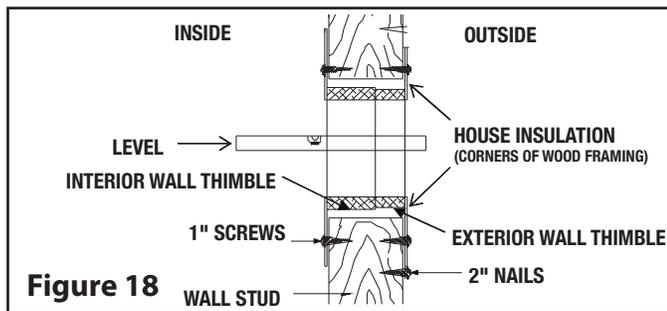

Figure 18
Using a level make sure that the hole for the chimney to pass through is horizontal. Screw the inner thimble in place with the provided screws. (see Figure 18).
**NOTE:** The cavity surrounding the radiation shield must be filled with any insulation (see Figure 18).